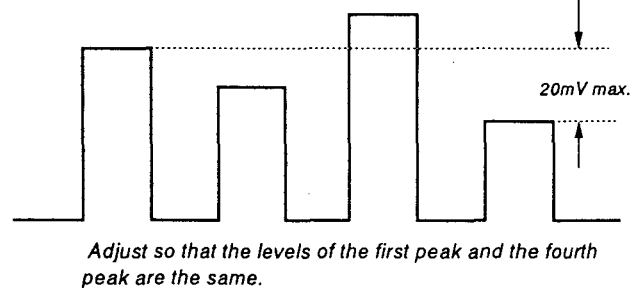

Fig. 9
5. Using **SUB CHROMA NORMAL**, adjust so that the tops of the waveform line up as in the diagram below. (Fig. 9)